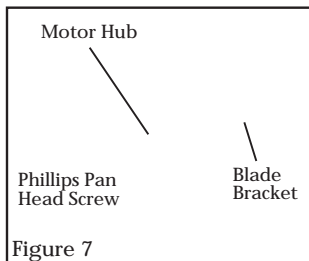

Figure 7
- Place one of the phillips pan head screws into one of the recessed holes in the blade bracket. Turn screw until it mates with threaded hole in hub. Do not tighten screw completely at this time. (Figure 7)